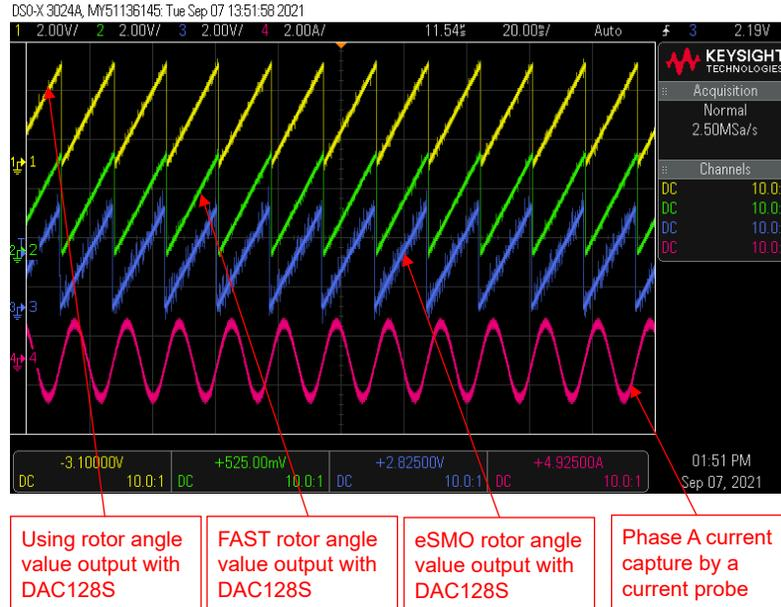

Figure 3-48. Build Level 4: Rotor Angle with FAST and eSMO, Phase Current Waveforms at Forward Rotation
- The estimated rotor angles from FAST and eSMO are shown in Figure 3-48. The motor is running with FAST at **forward** rotation by setting `motorVars_M1.speedRef_Hz` to a **positive** value.
Use DAC128S085EVM with an oscilloscope to monitor rotor angle of the motor from the FAST and eSMO estimator, and a phase current of the motor as shown in Figure 3-48 when the motor is running at forward rotation by setting `motorVars_M1.speedRef_Hz` to a positive reference value.